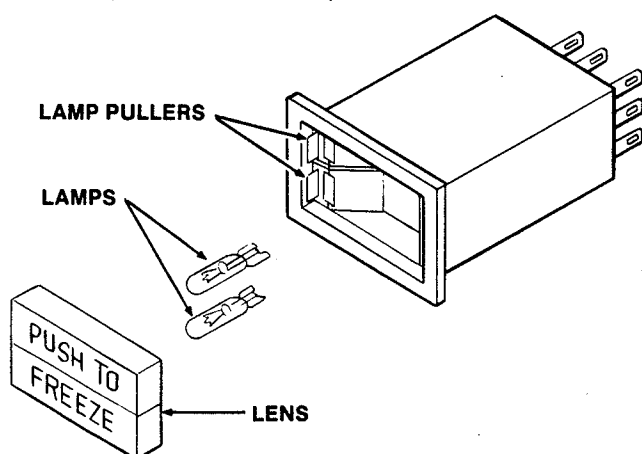

Figure 29. Push To Freeze Light/Switch Assembly
- B. Remove the faulty lamp by pulling out the lamp puller. (See Fig. 29.)